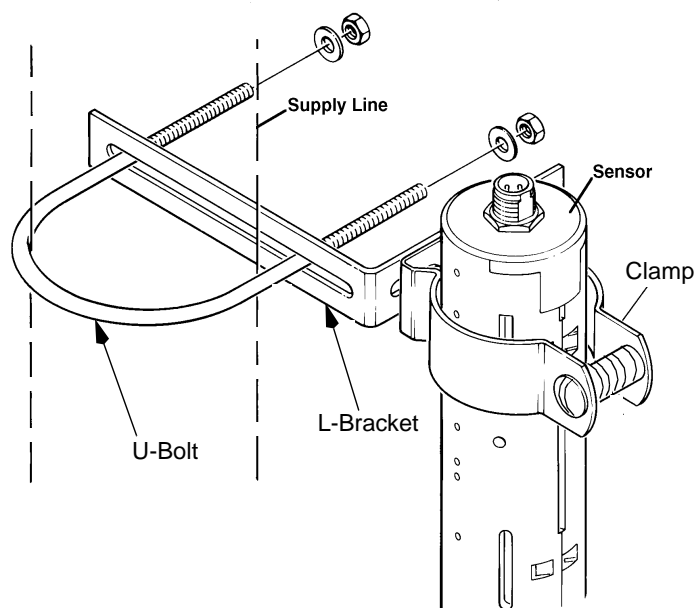

Figure 6. Mounting the Sensor to the Supply Line.
1. Assemble the clamp by inserting the spacer (if you are using a stabilizer tube) in the clamp, then securing it with the provided bolt (Figure 6).
2. Attach the clamp to the L-bracket with the 1/4-20 x 3/4" bolt (Figure 6).